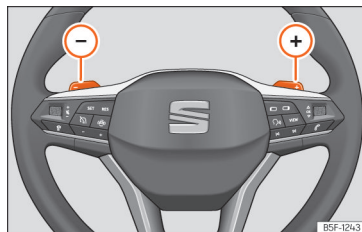

Fig. 169 Steering wheel: automatic transmission levers
- Press the gearshift paddle  to select a higher gear »» **Fig. 169**.